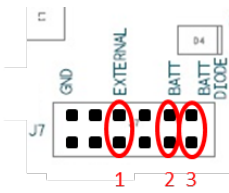

Figure 4: Power supply jumper positions of EVK-NINA-B1
Depending on the selected power source, and whether or not NFC will be used, you must fit the jumper on pin header J7 in one of the three different positions as shown in Figure 4.
1. To power the board from USB or external power supply, the jumper on J7 should be in position 1 as shown in Figure 4.
If you would like to utilize the flexible input voltage 1.7-3.6 V of the NINA-B1 module, the power source has to be connected to header J7. Connect the positive voltage to one of the pins - 1, 2 or 3 (bottom row in Figure 4) and connect the ground to one of the two pins marked “GND” in Figure 4.